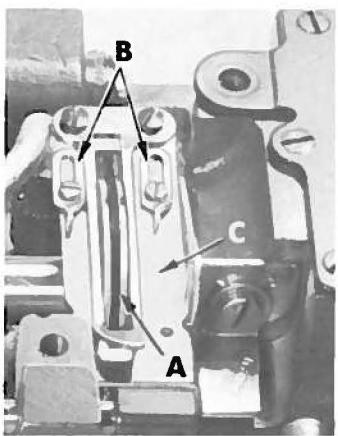

Fig. 14
The looper thread take-up (A, Fig. 14) is not spotted on mainshaft and consequently is set correctly when the looper thread is just cast-off the highest lobe of the take-up, when the point of the needle is approximately  $1/32$  inch below the underside of the looper. The looper thread eyelets (B) located on the cast-off plate (C) are adjustable and should be set all the way forward in their slots (Fig. 14).